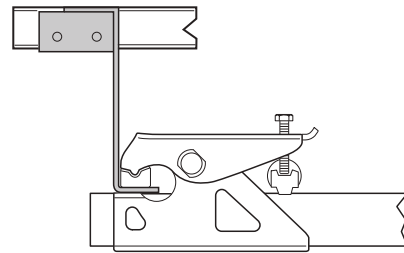

Fig. 20
- For the Eriba Touring chassis, the Eriba Touring adapter kit is mandatory (Fig. 20).